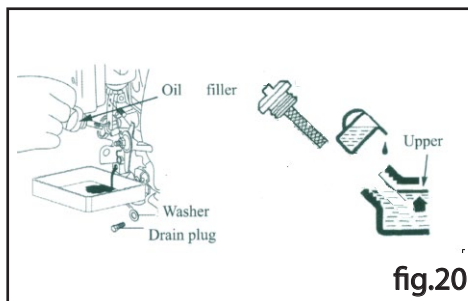

fig.20
- Unscrew the oil filler (bolt). (Fig.20)